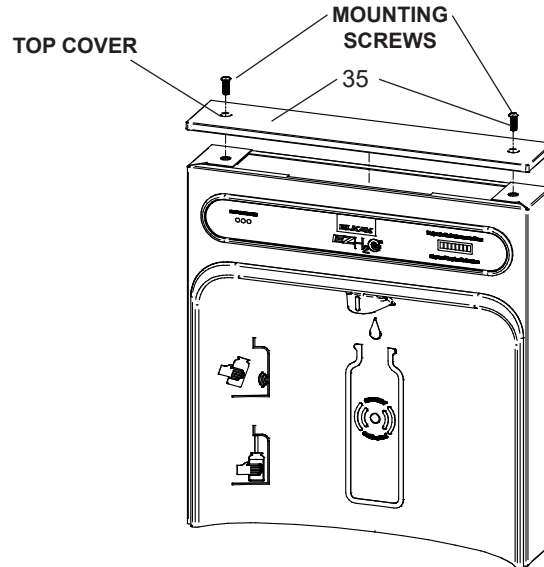

Fig. 8
- 1) **Remove two (2) mounting screws** with 5/32" Allen wrench holding top cover to Bottle Filler (See Fig. 8). Remove top cover. Note do not discard mounting screws, they will be needed to reinstall top cover.
- 9) **Once Bottle Filler is installed on wall plate tabs,** waterline and power cord are installed properly, push top of Bottle Filler toward wall and line up top cover two (2) holes.
- 10) **Reinstall Top Cover on Bottle Filler** (See Fig. 8) with two mounting screws from step 1 above. Caution, do not over tighten screws.